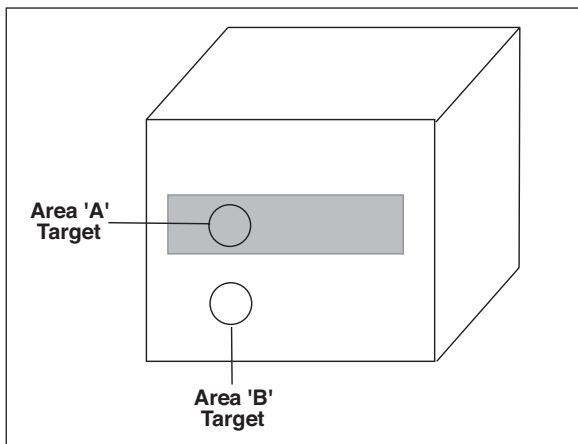

Figure C-1. Determining Emissivity
3. Set the emissivity of the thermometer to 0.95. Use the thermometer to measure and record the temperature of the masking tape - Area 'A' in Figure C-1. Make sure that the area of the object covered with masking tape fills the FOV of the thermometer.
4. Aim the thermometer at Area 'B' as shown in Figure C-1. Make sure that Area 'B' is as close as possible to Area 'A'.
2. Set the emissivity to 0.97 and measure and record the temperature of the painted portion of the sample material - Area 'A' in Figure C-1. Make sure that the painted area of object material fills the FOV of the thermometer.
3. Aim the thermometer at another spot on the target - Area 'B' in Figure C-1.